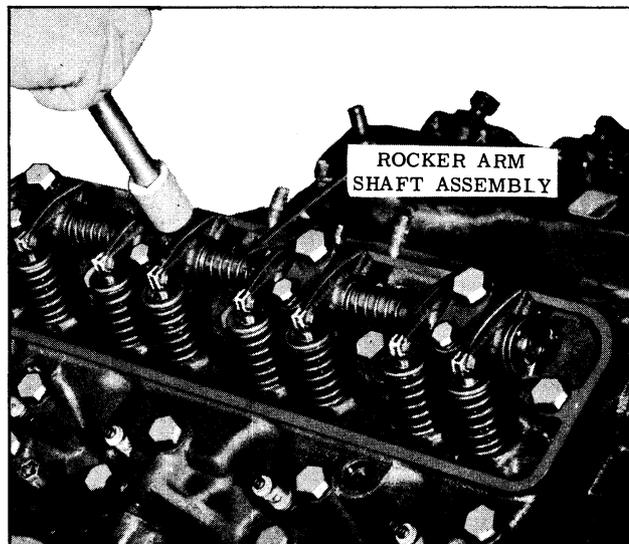

Fig. 8-8 Removing Rocker Arm Shaft Assembly
2. Remove rocker arm and shaft assembly. (See Fig. 8-8)